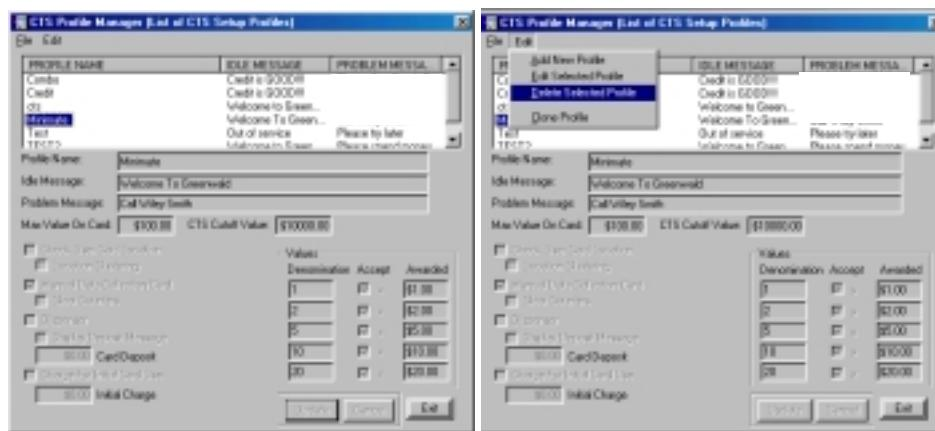

Figure 9.6 To Delete a Cash CTS Profile
2. Click the profile to delete from the Profile List Window (Figure 9.6).
3. Select Delete Selected Profile from the Edit drop-down menu (Figure 9.6).